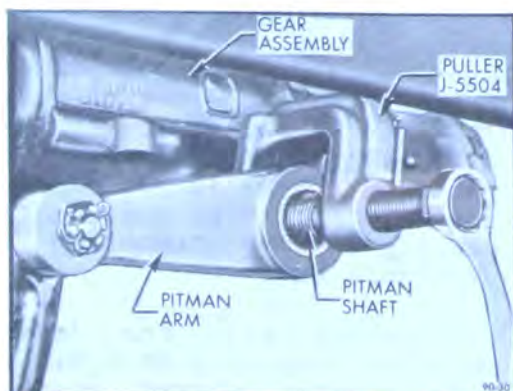

Figure 90-28 Removing Pitman Arm From Pitman Shaft
1. Remove pitman nut and disconnect pitman arm from pitman shaft using puller J-5504. See Figure 90-28.
4. Jack up car and remove the pitman shaft nut, then remove the pitman arm using puller J-5504. See Figure 90-28.